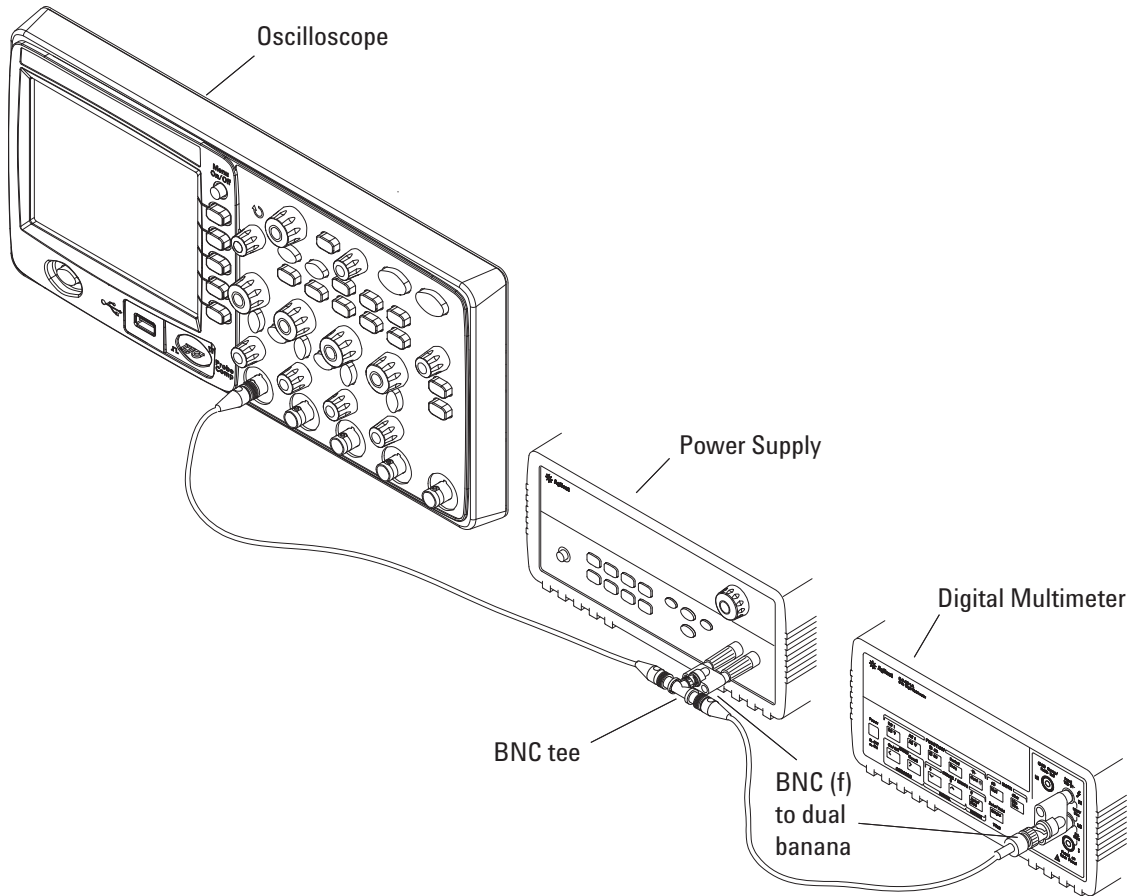

Figure 2 Connecting Equipment for DC Gain Accuracy Test
- 9 Connect the equipment as shown in **Figure 2**.